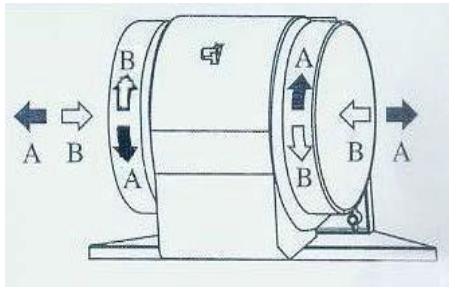

Fig.6
■ The active carbon filters purify the air that is replaced in the environment. The filters are not washable or reuseable and must be replaced at maximum every four months. The saturation of the active carbon filter depends on the frequency of use of the appliance, also by the type of cooking and the regularity of cleaning on the anti-grease filters. (Fig 6) To remove the charcoal filters place our hand on one filter at a time and turn it toward the front part. The charcoal filter can now be removed. Always ensure to replace both filters at the same time.